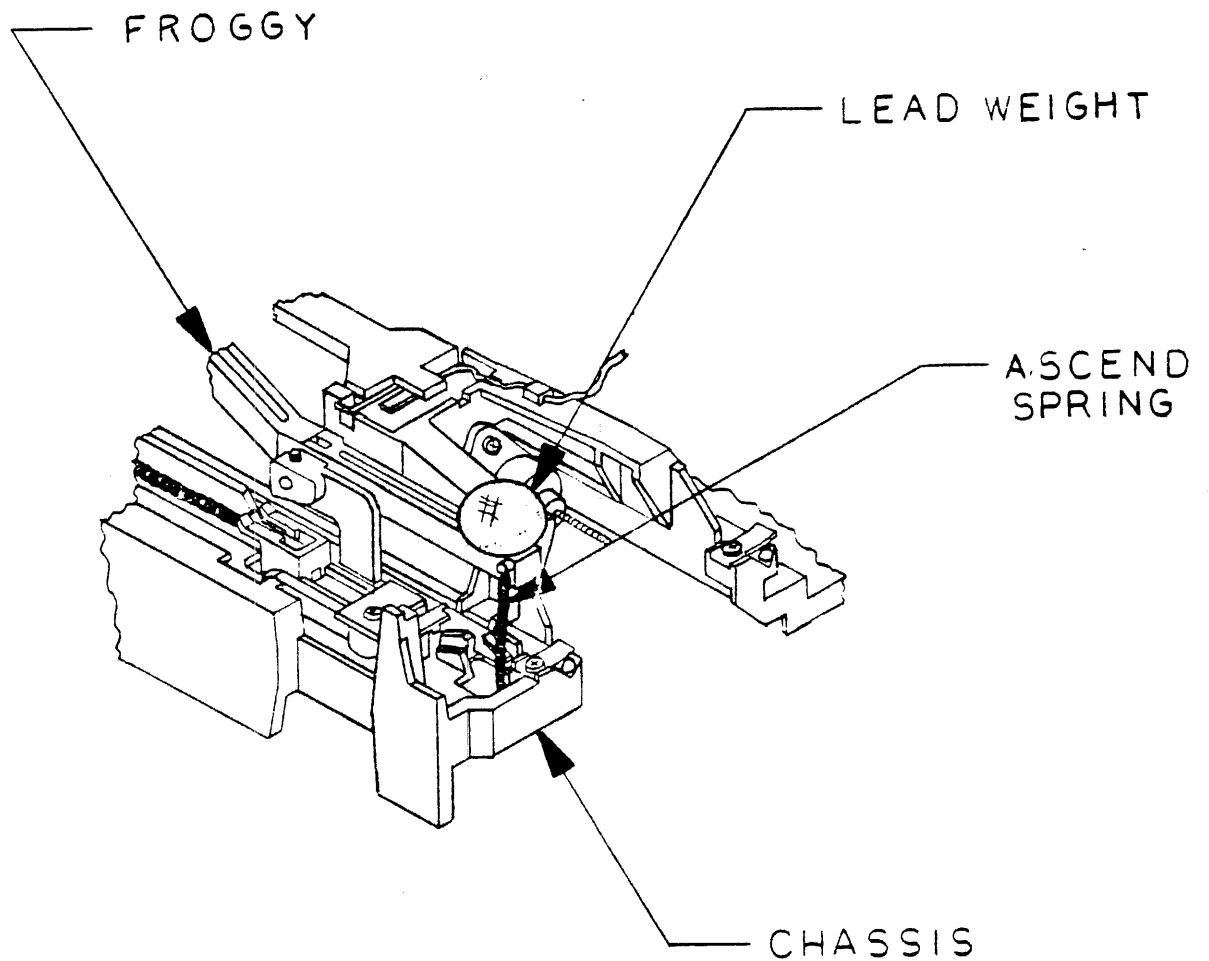

FIGURE 5. THE PLACEMENT OF THE LEAD WEIGHT ON THE FROGGY IN THE MODULATION TEST
7.3.3 Place the lead weight onto the froggy near the ascend spring as shown in Fig. 5, so that the edge of the weight is flush with the edge of the froggy.